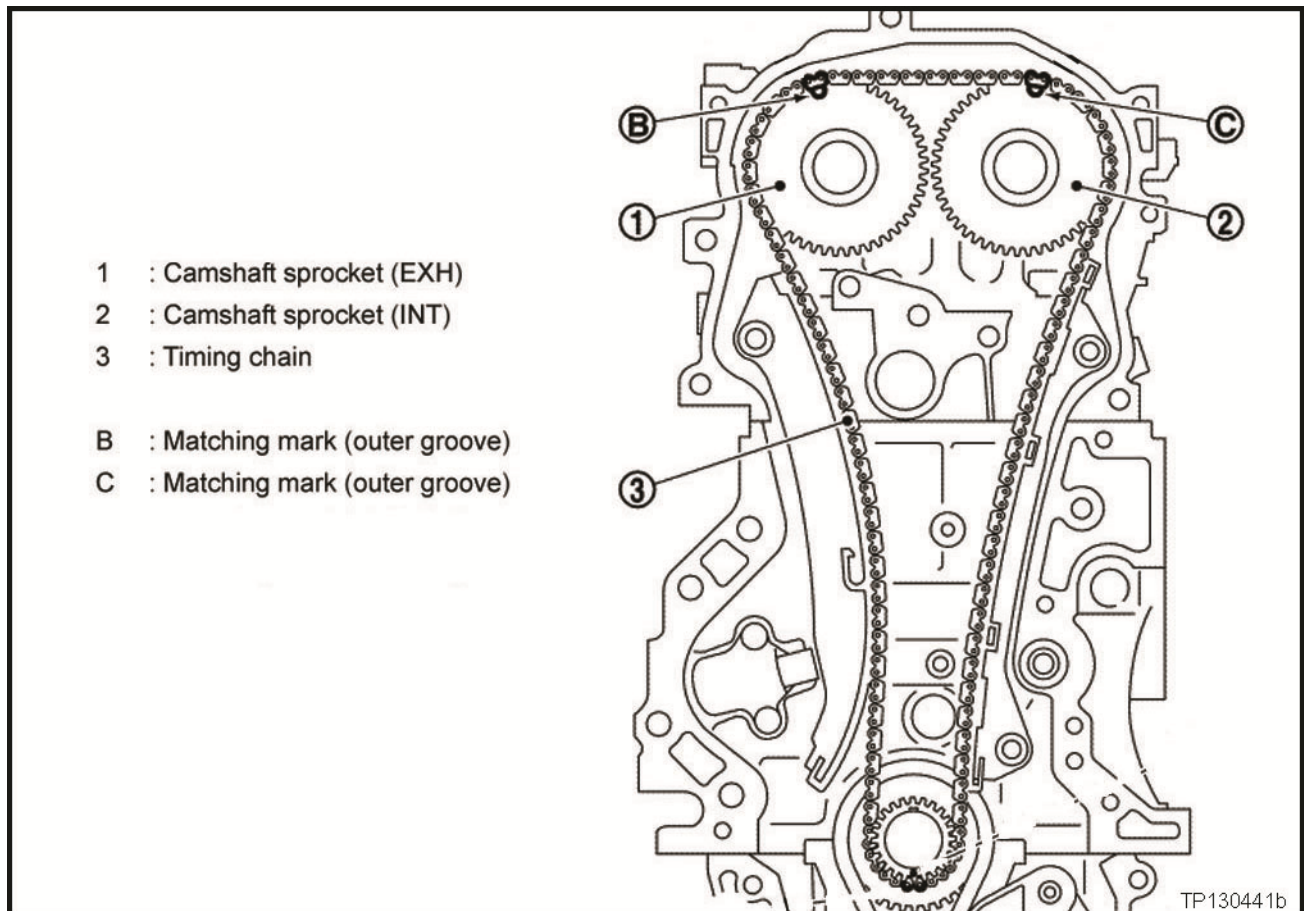

Figure 30
39. Make sure the cam timing marks are in the position shown in Figure 30.
- Line up the cam timing marks as shown in Figure 30.